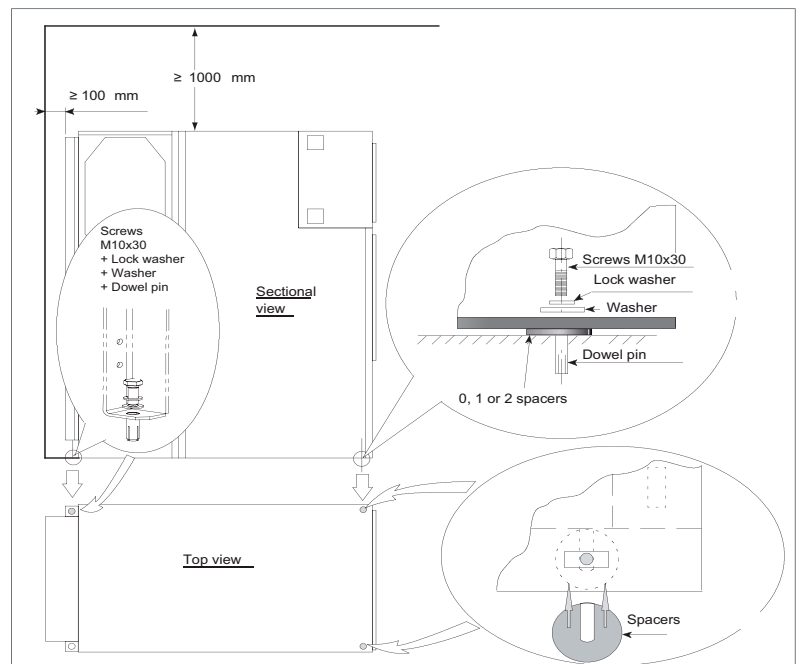

Fig. 5.8
- Screw-fasten panel to the two fastening points on the front end and at least one fixation point on the rear end (Fig. 5.8); hex. bolt M 10 x 30 + dowel pin.